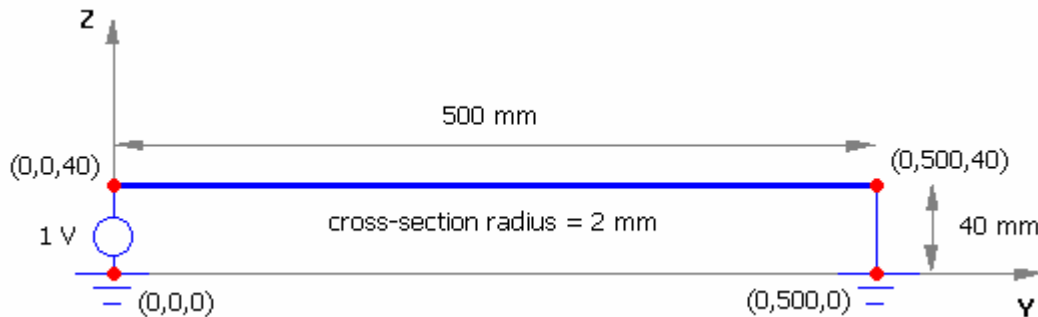
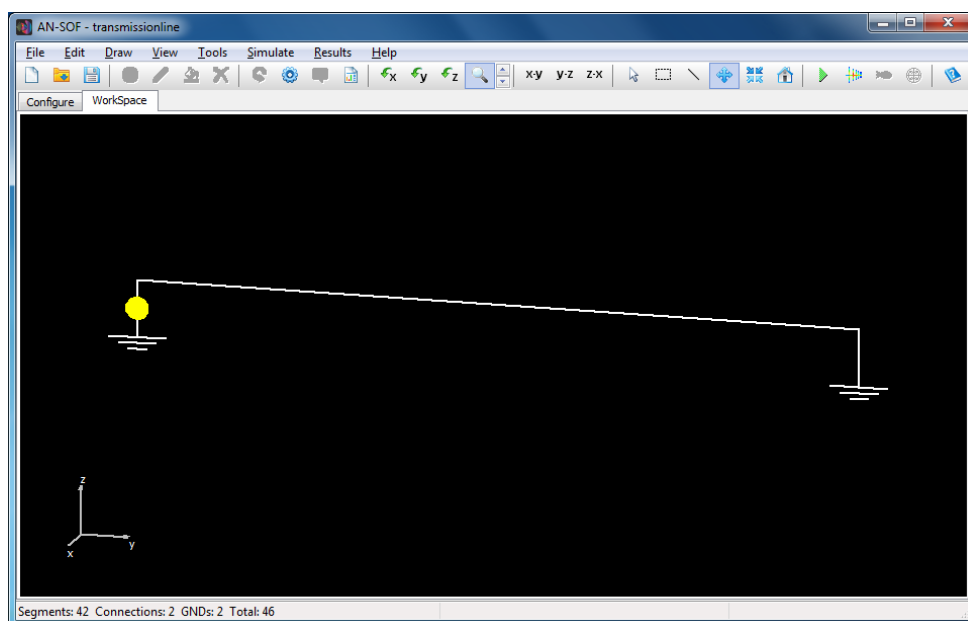
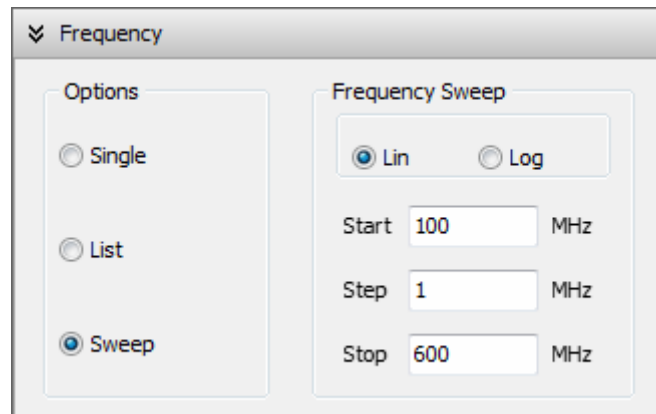

Fig. 14.8: Short-circuited transmission line.
Fig. 14.11: Short-circuited transmission line in the AN-SOF[®] workspace.
Fig. 14.12: Frequency sweep from 100 to 600 MHz in steps of 1 MHz.
A horizontal straight wire above a ground plane will simulate a transmission line. A sketch of the geometry definition is shown in Fig 14.8.
Step 2: Choose Draw/Wire/Line in the main menu. The Draw dialog box for the Line will be shown. Follow the procedure described in Section 5.1 for drawing linear wires to replicate the geometry in Fig. 14.8. The horizontal wire has 40 segments and the vertical short wires have 1 segment. The electrical connections at the points (0,0,40) [mm] and (0,500,40) [mm] are done automatically as well as the ground connections. The transmission line will be shown in the workspace as it is depicted in Fig. 14.11.
Step 4: Follow the procedure described in Section 13.4 to obtain the input impedance of the short-circuited transmission line. Then, delete the right short wire shown in Fig. 14.11 to simulate an open-circuited transmission line and get its input impedance. These values are approximately:
Step 5: Go back to the short-circuited transmission line in Fig. 14.11 by pressing Edit/Undo in the main menu. Choose Simulate/Configure... in the main menu and fill the Frequency page as shown in Fig. 14.12.